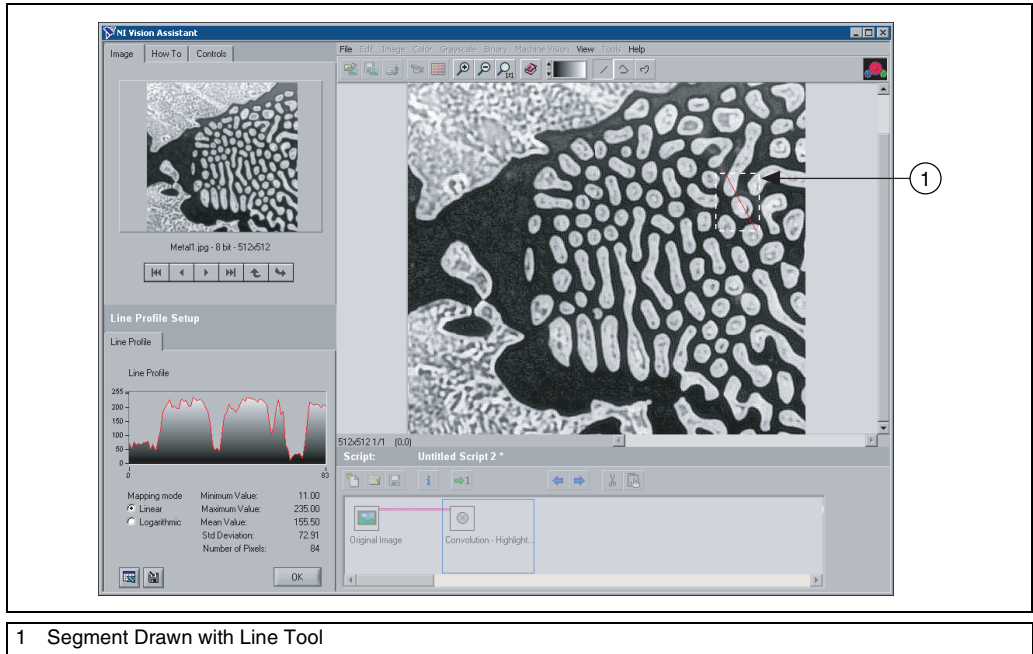

Figure 3-2. Using a Line Profile to Examine Particle Edges
- Click and drag to draw a short segment across a particle to examine the line profile of the particle and its border, as shown in Figure 3-2. The line profile indicates more defined edges.